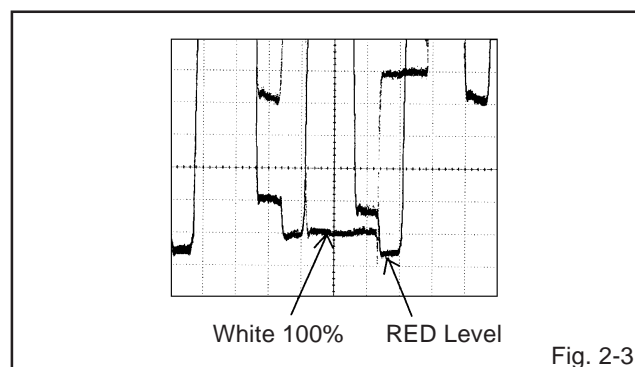

Fig. 2-3
7. Press the VOL. UP/DOWN button on the remote control until the red color level is adjusted to 115% of the white level. **(Refer to Fig. 2-3)**